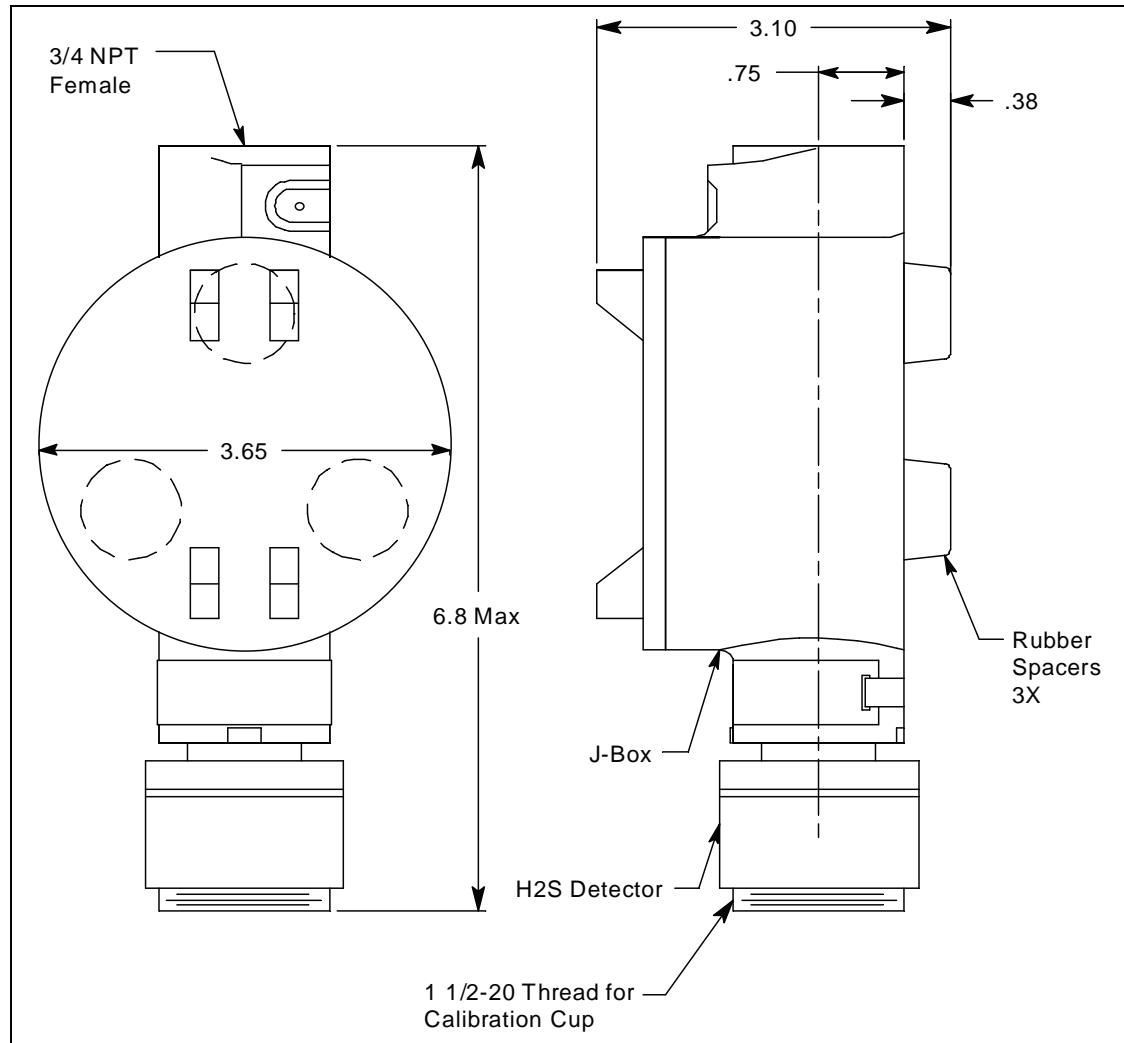

Figure 3: Mounting the H₂S Transmitter
2. At the monitoring site you select, hang or mount the junction box with the detector facing down (see Figure 3).